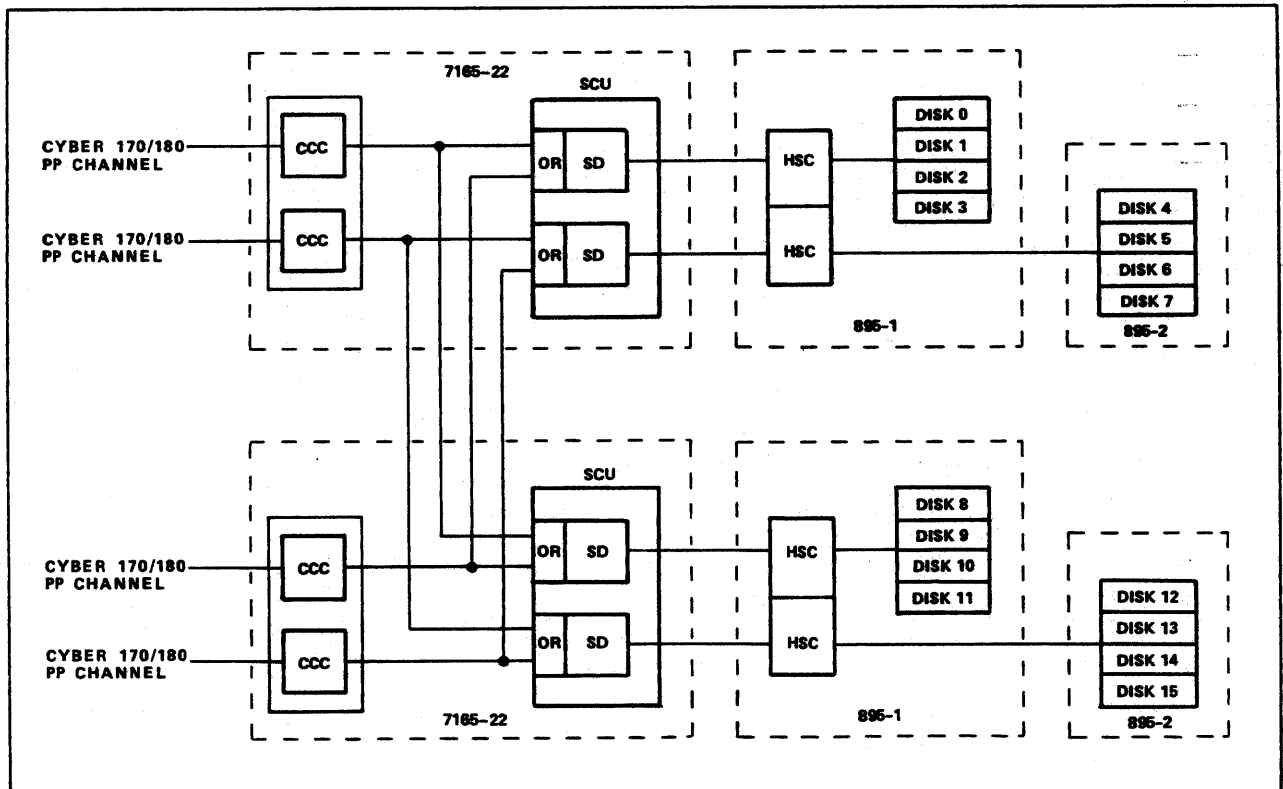

Figure 1-2. Typical Subsystem Configuration
- The model 7165-22 consists of two CYBER channel couplers and two storage control units. Each coupler has a single data path to a CYBER 170/180 peripheral processor channel. The storage control units have independent data paths, each with a 7165 device interface to an 895-1 Disk Storage Unit. Each storage control unit has a second access that allows for redundant interconnections between multiple 7165-22 controllers (refer to figure 1-2).